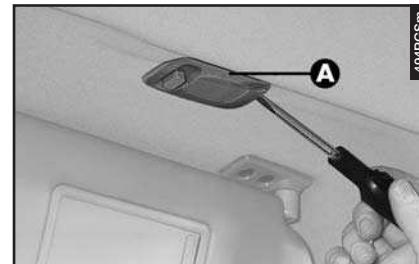

fig. 73
- Remove the light (**A-fig. 73**) levering in the point illustrated.